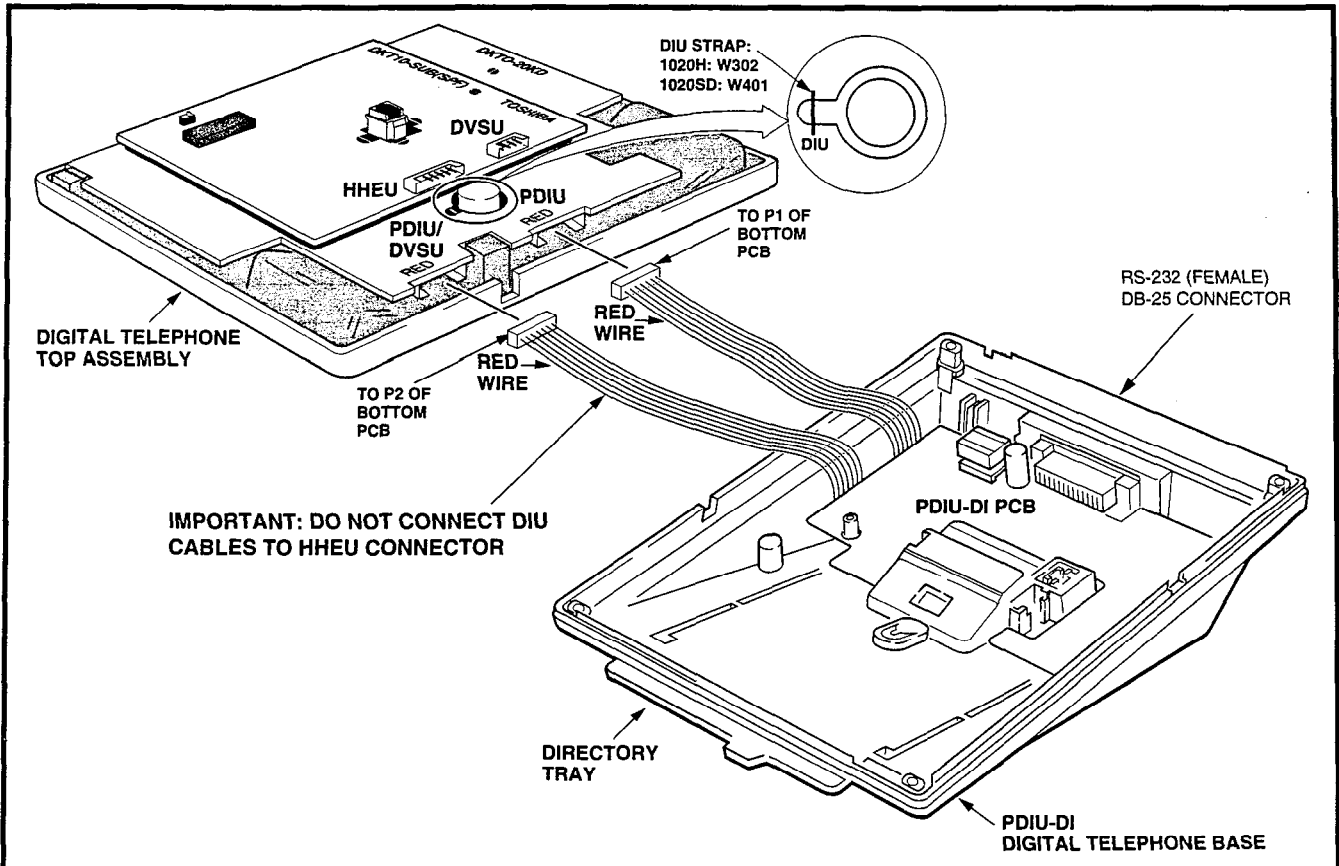

FIGURE 4-56—PDIU-DI PCB/DIGITAL TELEPHONE INSTALLATION
6.131 The PDIU-DI (Figure 4-56) mounts directly on the bottom of a digital telephone (forming a single unit) as follows: